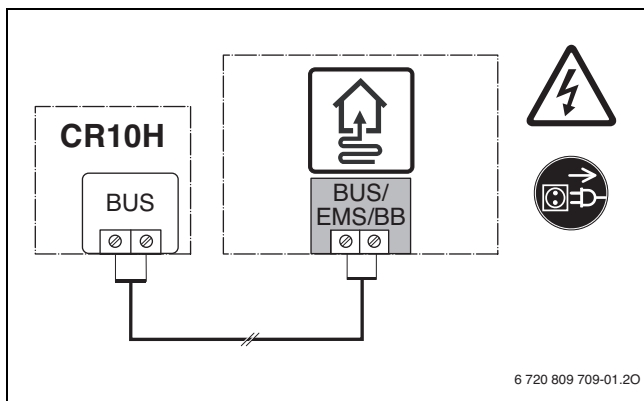

Fig. 4
- ▶ Etablir la connexion BUS (→ fig. 4, page 11)